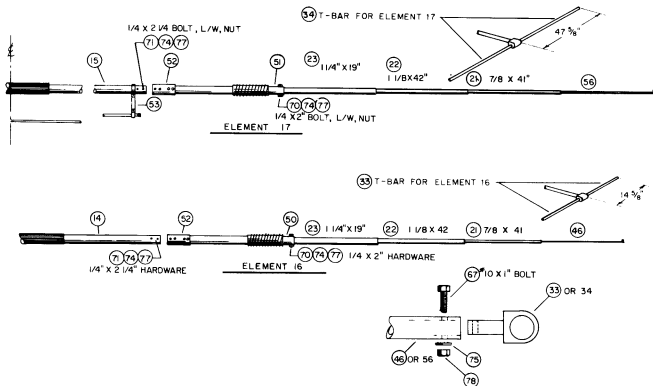

Figure 2-13
Refer to Figure 2-13 and install the T-bar assembly (item 33, 870204) on elements 16 and 17 (item 34, 870205) as shown. Set lengths to those shown in Figure 2-4.